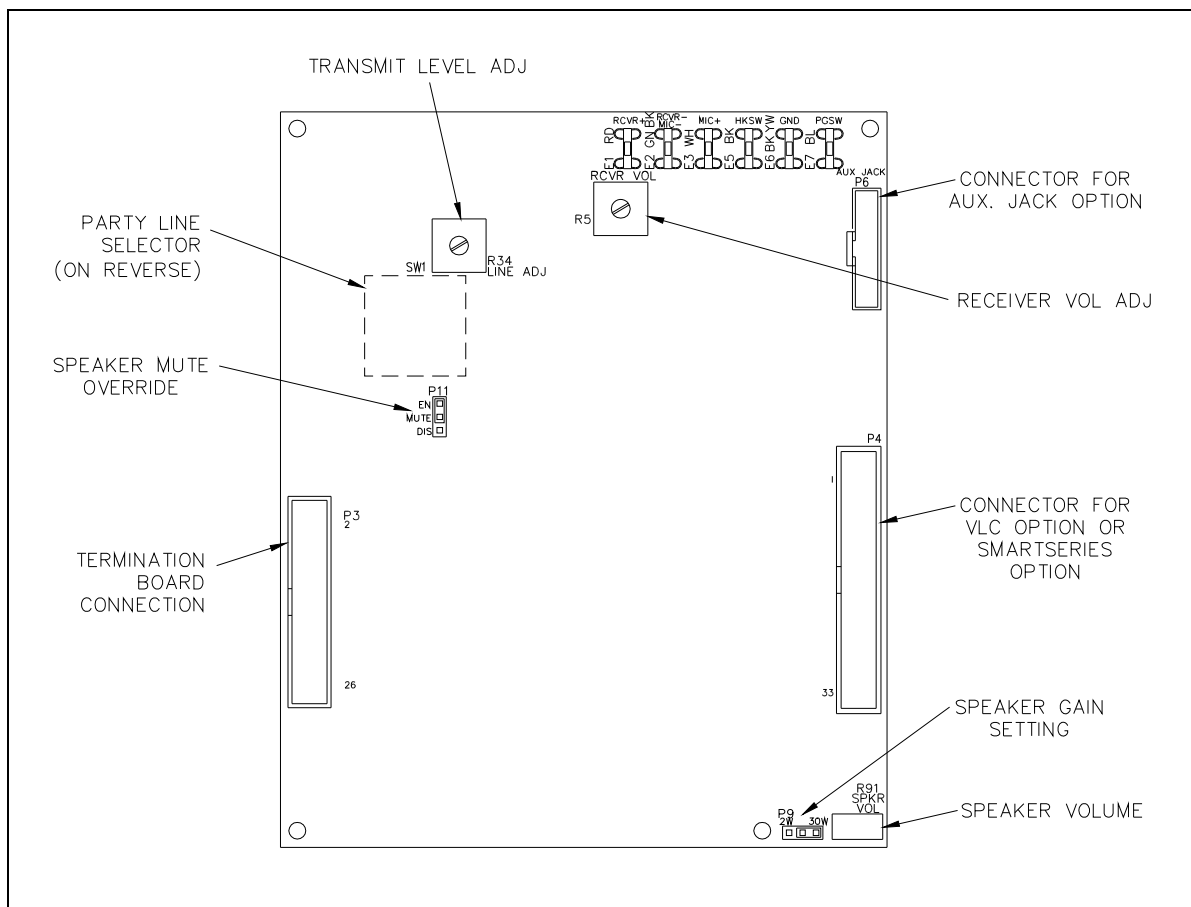

Figure 6. No. 69557 Series Main PCBA
The station can mute the speaker amplifier during page operation to eliminate feedback. Adjust jumper P11, if necessary, to mute the local speaker when paging from that station (see Figure 6).
P9 sets the maximum speaker output level (see Figure 6).
Use the transmit-level potentiometer, R34, to adjust the signal level from the handset or optional auxiliary headset microphone to the page or party lines (see Figure 6).
Use the receiver volume potentiometer, R5, to adjust the signal level to the handset receiver from the page or party lines (see Figure 6). This does not adjust the signal level to the optional auxiliary headset.
Use the speaker volume potentiometer, R91, to adjust the signal level to the speaker from the page line (see Figure 6). The default setting is 4 watts for an 8-ohm speaker and 2 watts for a 16-ohm speaker.
1. Turn the speaker volume potentiometer, R91, (on the main PCBA) fully counterclockwise (see Figure 6).
3. Adjust the speaker volume potentiometer, R91, to the desired output (see Figure 6).
2. Remove all jumpers on the main PCBA P4 connector (see Figure 6).
1. Turn the speaker volume potentiometer, R91, fully counterclockwise (see Figure 6).
1. Turn the speaker volume potentiometer, R91, fully clockwise (see Figure 6).